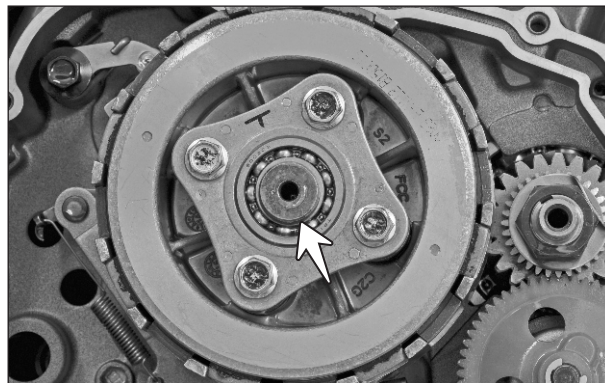

Fig. 3.8
- Take out adopter pin clutch release from the clutch assembly along with a ball (dia. 3/16). (Fig. 3.8)